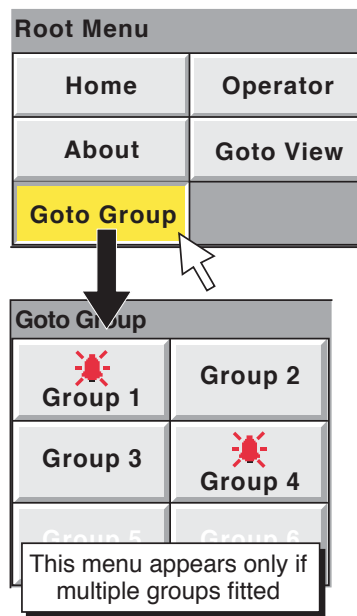

Figure 3.2.1b
- Goto Group Allows a group to be selected for display. Groups which are not 'display enabled' in the Config/Views page are greyed. An alarm icon appears (as shown for groups 1 and 4, in figure 3.2.1b, below) for any group containing one or more points in alarm. The icon flashes if any of the group's alarms have not been acknowledged. If multiple groups are not fitted, the 'Goto Group' sub-menu does not appear.